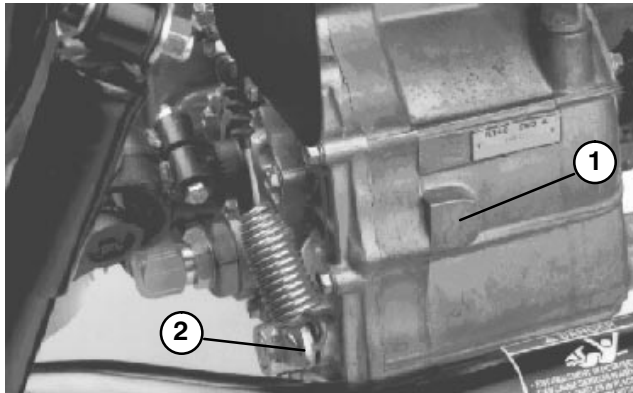

Figure 51
CHANGING TRANSAXLE / HYDRAULIC FLUID (Fig. 51)
2. Remove drain plug (Fig. 51) from side of reservoir and let hydraulic fluid flow into drain pan.